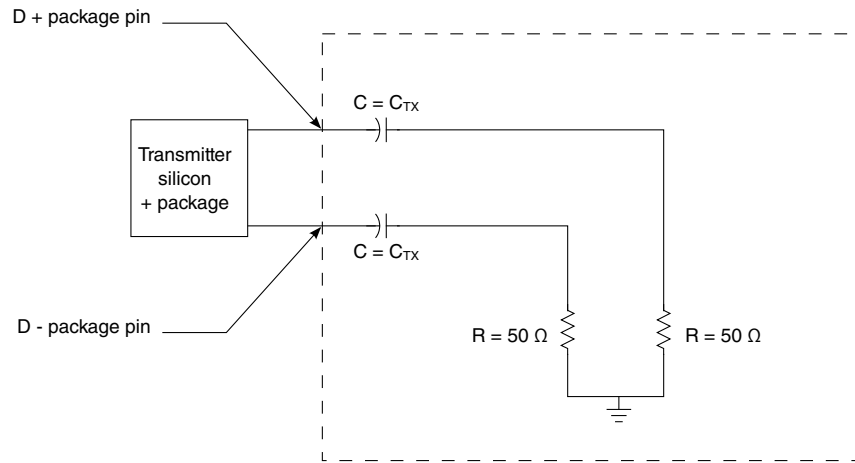

Figure 41. Test/measurement load
1. Specified at the measurement point into a timing and voltage test load as shown in Figure 41 and measured over any 250 consecutive transmitter UIs.
<p>1. Specified at the measurement point and measured over any 250 consecutive UIs. The test load in Figure 41 must be used as the receiver device when taking measurements. If the clocks to the receiver and transmitter are not derived from the same reference clock, the transmitter UI recovered from 3500 consecutive UI must be used as a reference for the eye diagram.</p> <p>2. A $T_{RX-EYE} = 0.40$ UI provides for a total sum of 0.60 UI deterministic and random jitter budget for the transmitter and interconnect collected any 250 consecutive UIs. The $T_{RX-EYE-MEDIAN-to-MAX-JITTER}$ specification ensures a jitter distribution in which the median and the maximum deviation from the median is less than half of the total. UI jitter budget collected over any 250 consecutive transmitter UIs. It must be noted that the median is not the same as the mean. The jitter median describes the point in time where the number of jitter points on either side is approximately equal as opposed to the averaged time value. If the clocks to the receiver and transmitter are not derived from the same reference clock, the transmitter UI recovered from 3500 consecutive UI must be used as the reference for the eye diagram.</p> <p>3. It is recommended that the recovered transmitter UI is calculated using all edges in the 3500 consecutive UI interval with a fit algorithm using a minimization merit function. Least squares and median deviation fits have worked well with experimental and simulated data.</p> <p>4. For recommended operating conditions, see Table 3.</p> <p>5. The $T_{RX-EYE-MEDIAN-to-MAX-JITTER}$ for common and separated reference clock architecture.</p> <p>6. If spread spectrum clocking is desired, common clock receiver architecture must be used.</p> <p>7. The AC specifications do not include Refclk jitter.</p>